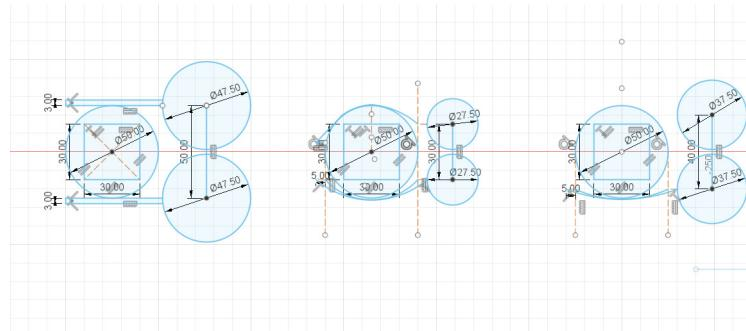

Figure 14: Sketches of different gripper blades and gear diameters
- Sketching some gripper blades that fit victims as well as the smaller rescue kit (see Fig. 14)
After some discussion and multiple iterations of sketches, we decided to settle on the design in Fig. 14 on the right.